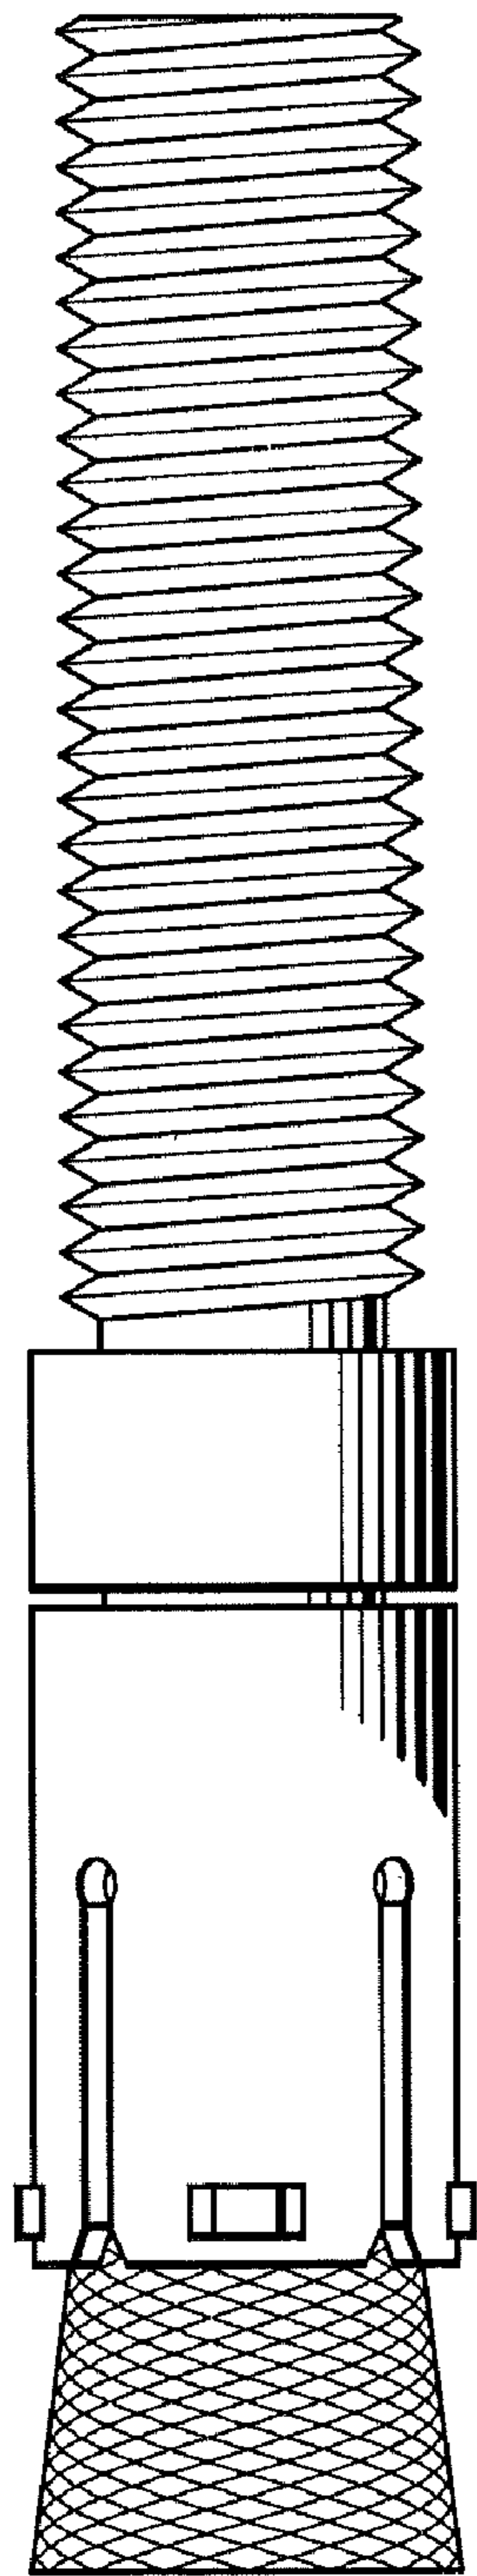

Fig. 1
- FIG. 1 is a front view of the stud having a diamond-knurled wedge;